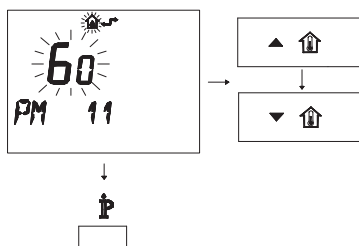

Fig. 7.34
- To modify the programmed SET, act on buttons **▲** or **▼** and wait for the programmed number to flash (Fig. 7.34). Each step increased or decreased corresponds to 1 second.